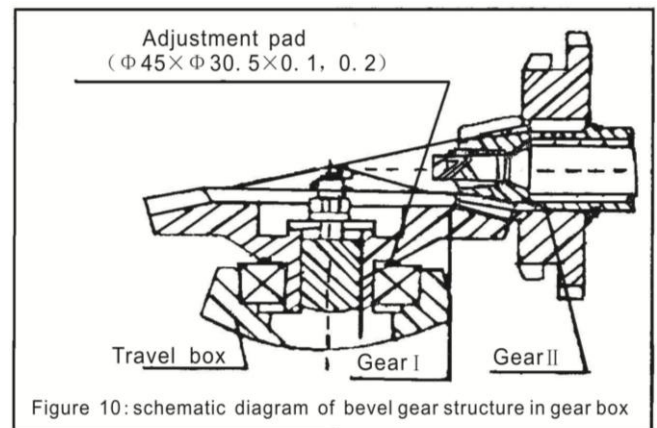
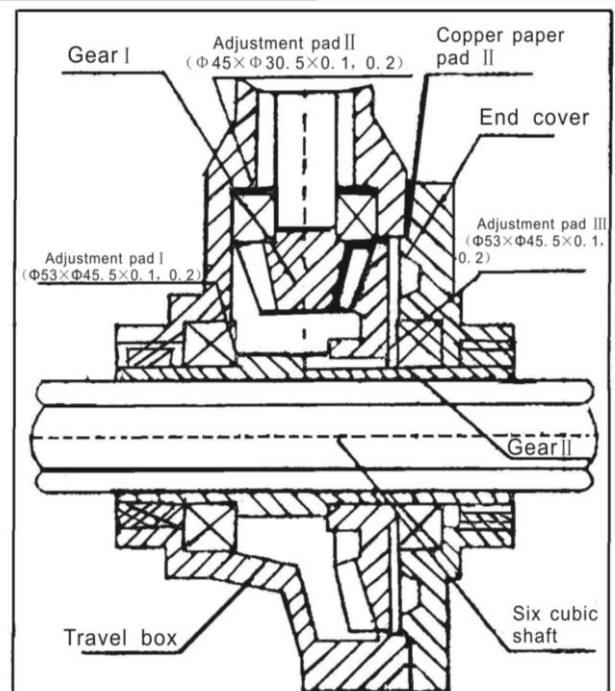

Figure 10: schematic diagram of bevel gear structure in gear box
Figure 11: schematic diagram of bevel gear structure travel box
1. Clearance adjustment of mesh of angel gear in gear-box (See Figure 10)
① When lateral clearance of mesh of the gear $\Delta < 0.05\text{mm}$, we should put some vulcanized paper to enlarge the clearance between the gear-box and the traveling box.
② When lateral clearance of mesh of the gear $\Delta > 0.3\text{mm}$, we should reduce the clearance to 0.05-0.10 mm between the bearings and gear II shaft
2. Clearance adjustment of mesh of the gear in the running case.(See Figure 11)
① When lateral clearance of mesh of the gear $\Delta < 0.05\text{mm}$, we should increase adjustment pad I by 0.2-0.3mm to enlarge the clearance, and change vulcanized paper board II and adjustment pad.